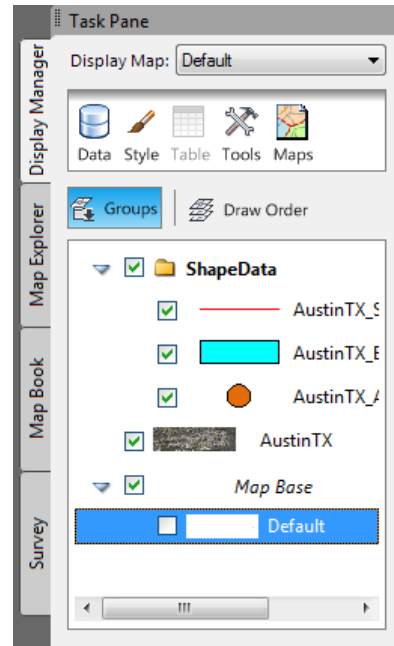

Figure 2-26 The Display Manager tab showing the added SHP file data
14. The **Display Manager** tab of the **Task Pane** displays the name of the shape data added to the drawing, as shown in Figure 2-26.